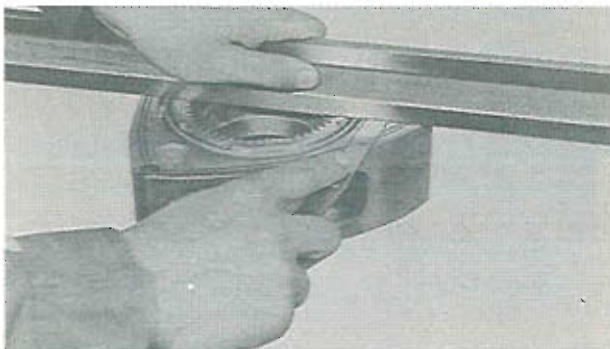

Fig. 1-53 Checking of land protrusion
5. Remove the oil seals in the rotor as described in Par. 1-B-3. i, and check the land protrusion of the rotor by placing a straight edge on the land. Measure the clearance between the rotor and the straight edge with a feeler gauge as shown in Fig. 1-53. The standard protrusion is 0.10 ~ 0.15 mm (0.004 ~ 0.006 in). If the protrusion is less than the specification, there is a possibility of the rotor touching the side housing at places other than the land, causing wear or damage.